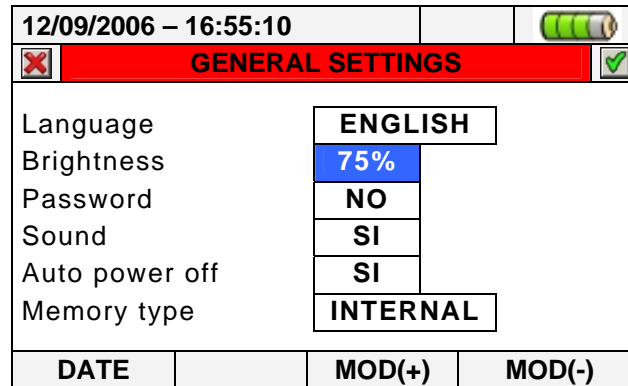

Fig. 11: Adjust brightness screen
1. Move the cursor using arrows keys on the field relative to “Brightness”, marked with blue background, see Fig. 11: